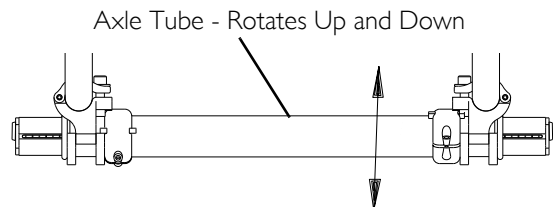
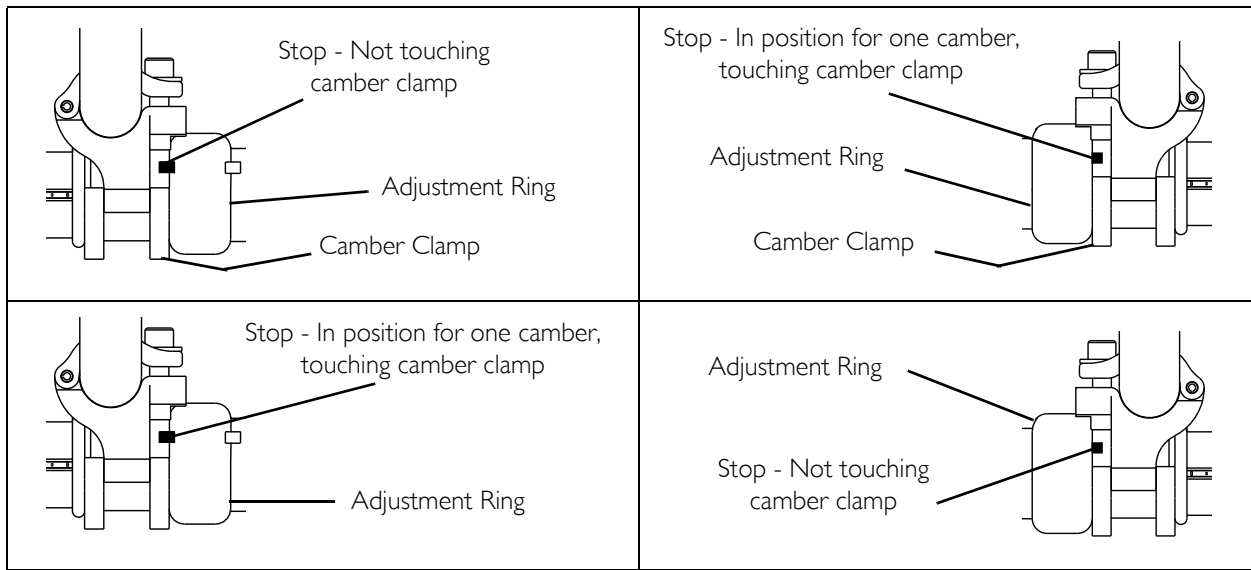

FIGURE 5.10 Adjustable Camber System
FIGURE 5.11 Adjusting Toe In/Toe Out - Adjustable Camber System - Course Adjustment
NOTE: For this procedure, refer to FIGURE 5.10 and FIGURE 5.11 on page 38.
7. Rotate either the right or left adjustment ring until the stop on the ring is at the top of the slot in the camber clamp as shown in FIGURE 5.11 and securely tighten the phillips screw on the positioned adjustment ring.
NOTE: FIGURE 5.11 shows two examples of how the adjustment rings can be positioned.